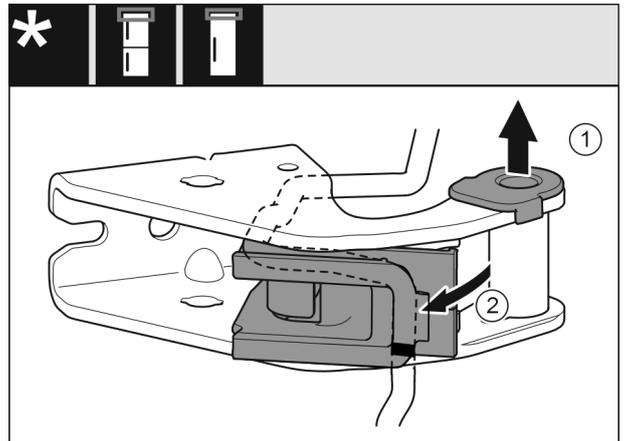

Fig. 17
- ▶ Pull the bearing bush out of the guide. Fig. 17 (1)
- ▶ Swivel the cable holder out. Fig. 17 (2)